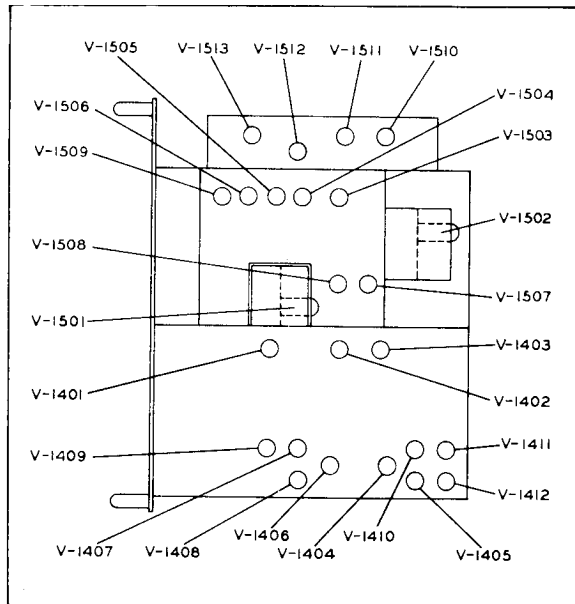

Figure 4-1. Signal Generator SG-13/ARN
a. All tubes are of the miniature type. Remove by pulling straight out of socket, taking care not to bend the base pins. See figure 4-1 for tube location.